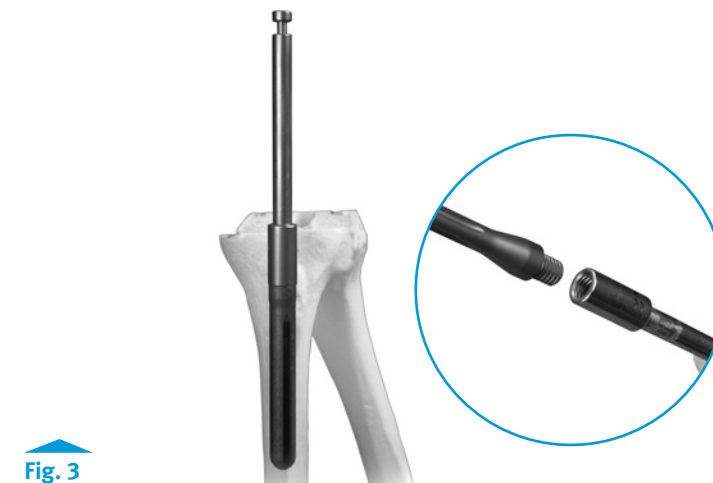

Fig. 3
- If all the reamer flutes cannot be buried in the bone, remove the reamer and insert the corresponding size Straight Stem Extension Provisional with the Stem Provisional Adapter attached (Fig. 3).